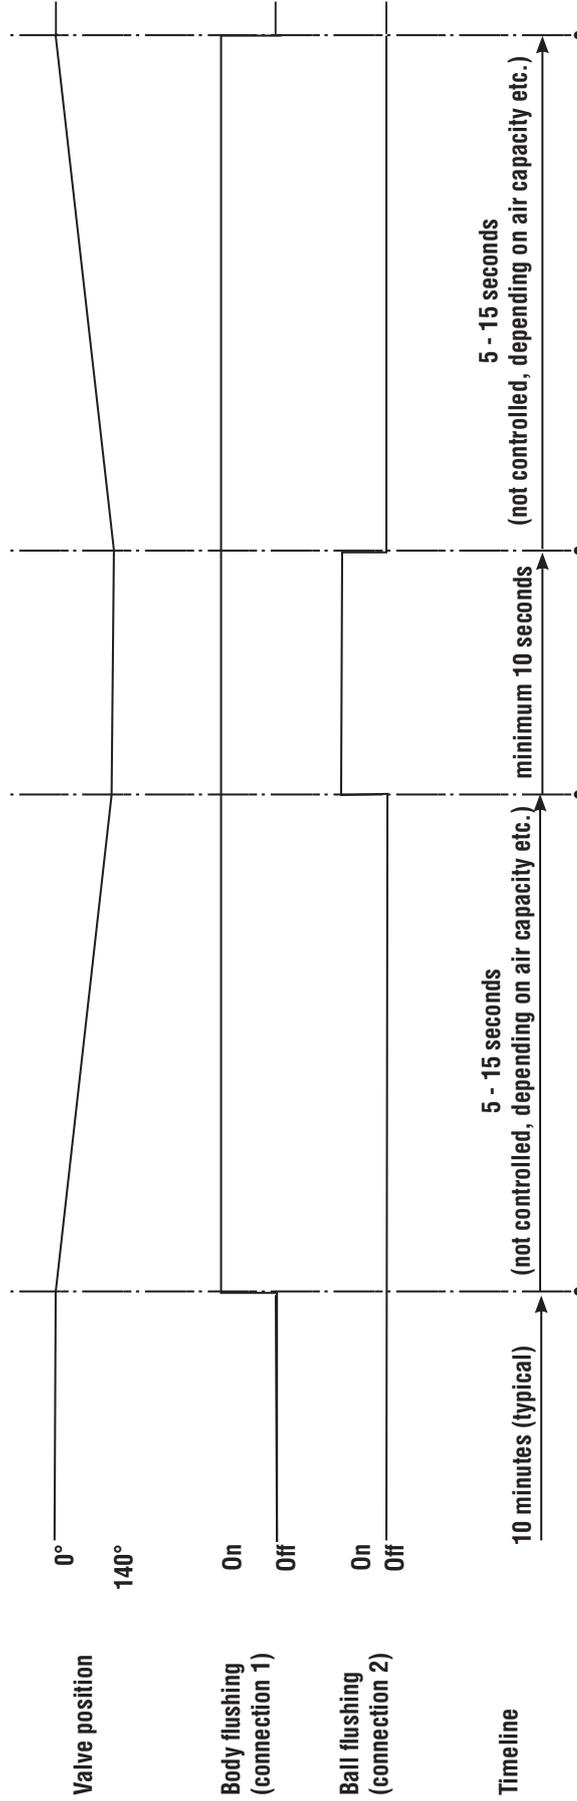

Figure 4: Schematic figure of the Pocket Valve operating sequence
A schematic figure of the operating sequence can be seen in Figure 4.
2. Grease the seat rings (4) with Klüber Barrierta L55/3 grease (or similar). The coat of grease must be thin and evenly distributed.
3. Fit the body seal (14) between the two halves (1, 2) of the body. It is always recommended to use a new body seal from the stem seal kit.
4. Fit the ball (3) in the main body (1). See Figure 4. Then fit the body cover (2). Note: The main body (1) and body cover (2) will only fit in one position.
5. Check that the Pocket ball opening is facing upwards in the direction of the body cover (2). If not, turn the ball 180 degrees.
7. Lubricate the contact surface of the nuts (19) with a suitable anti-galling grease and put the nuts onto the studs/bolts (17, 18). Start to tighten the bolted joint of the two body halves (1, 2) of the body alternately in several stages in a diagonal sequence. Make sure that the body seal (14) remains in its designated position.